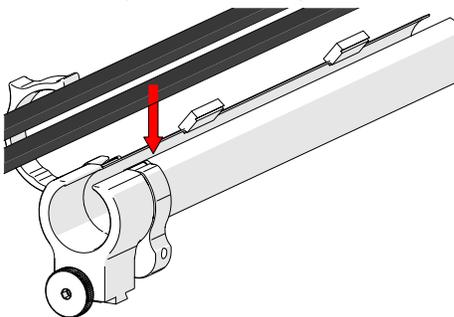

Fig. 70 - Insert cables and hoses
1. Open the cable management tube and cable latch. Begin at the tube's dovetail mount and place the cabling in the tube (Fig. 70).